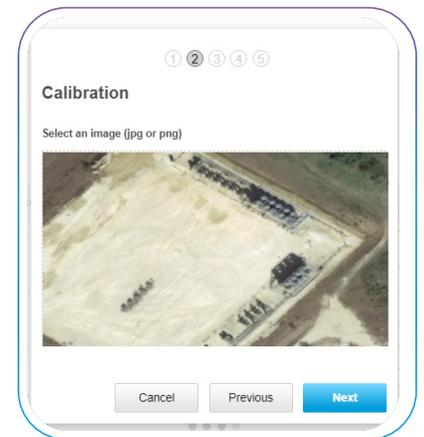

Figure 16. Image file uploaded
- When the upload is complete the “Open” dialog closes automatically, and the uploaded image is displayed (**Figure 16**).